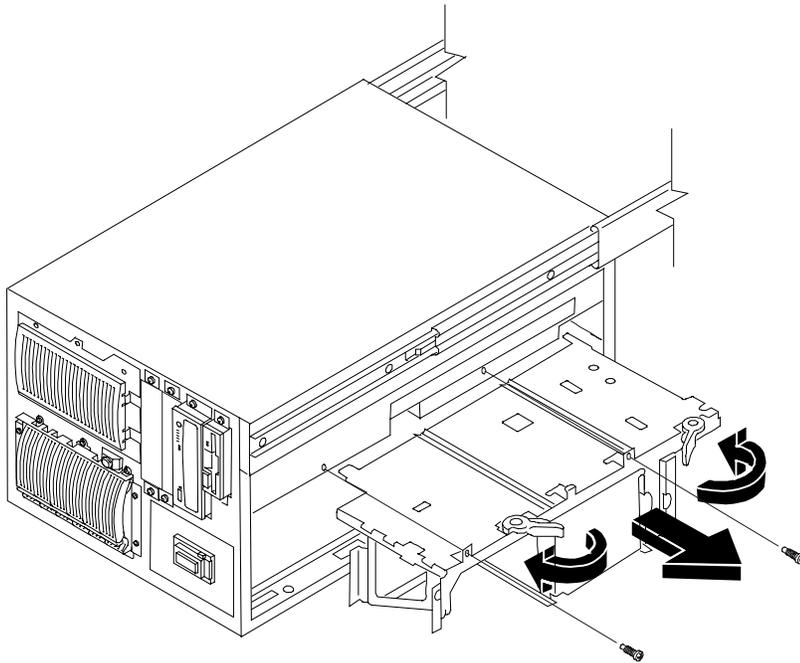

Figure 5-2. Removing the System Board Assembly from the LH 6000r NetServer
5. Remove the two screws securing the system board assembly to the chassis (see Figures 5-2 and 5-3).